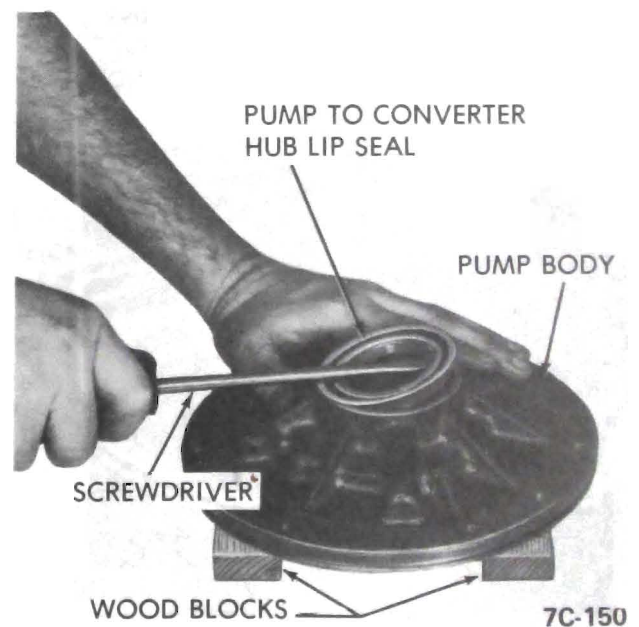

Figure 7C-87
9. Remove pump body to converter hub lip seal, if necessary and discard. See Figure 7C-87.